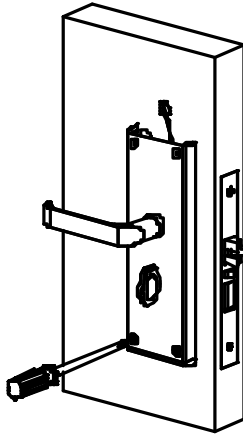

Figure 15
15) Adjoin door and backboard together, use screwdriver screw 2 set screws on bot of backboard but do not tight them. Show as Figure 15.